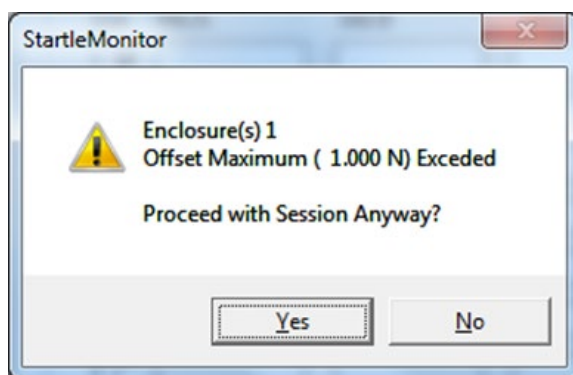

Figure 108 Maximum Offset Warning Message
Step 1. The mechanical offsets are more sensitive than the circuit offsets. We recommend the user check these values before each study to ensure proper values. The software automatically checks offset values before each session is run and will tare the System of these offset values. If the value exceeds 0.125 Volts a warning appears during an initial session startup (Figure 108).